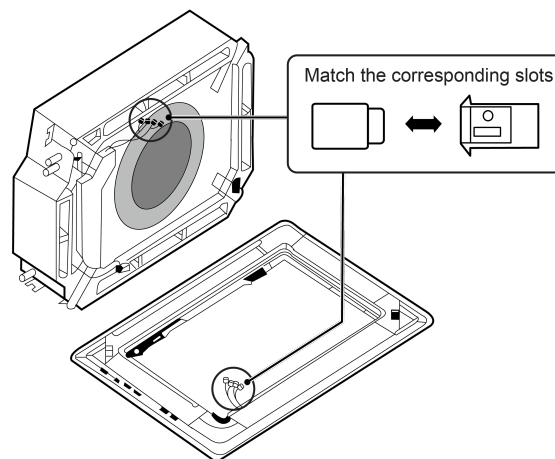

Fig.4.4.3
- (3) Connect the decoration panel terminals (Female) to body terminals (Male) as shown in Fig.4.4.3.